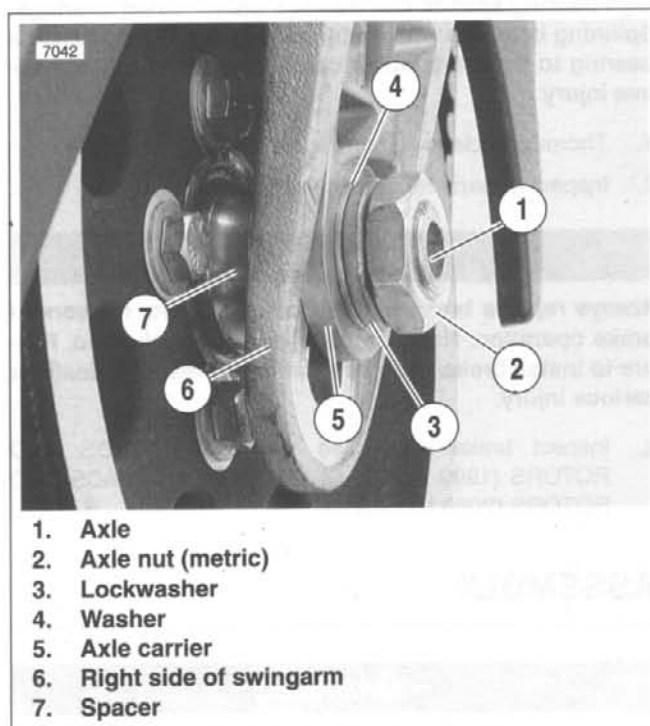

Figure 2-17. Axle, Right Side
- c. See Figure 2-17. Place spacer (7) between wheel hub and right side of swingarm (6). Slide axle (1) through spacer, swingarm and axle carrier (5).
- d. Place washer (4) on axle with rounded side facing swingarm. Install lockwasher (3) and axle nut (2) (metric). Do not fully tighten rear axle nut at this time.
5. Tighten rear axle nut (14) (metric) to 66-73 ft-lbs (89.5-98.9 Nm).